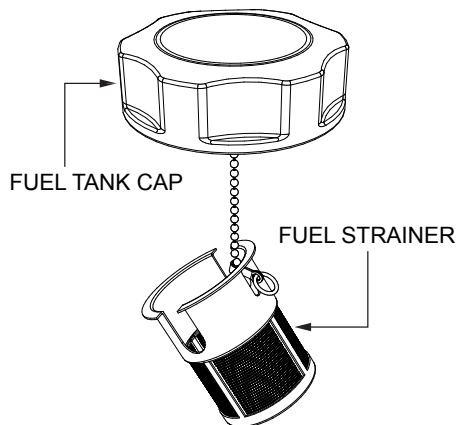

Figure 36. Fuel Strainer
3. Remove, inspect and clean the fuel strainer (Figure 36) with solvent.